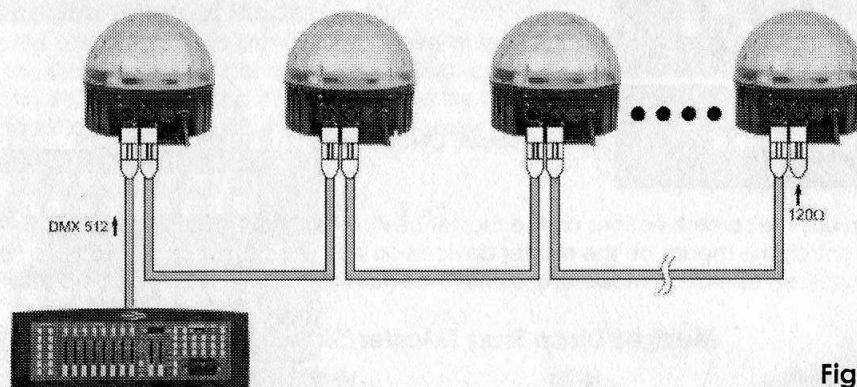

Fig. 4
4. Link the units as shown in (figure 4). Connect a DMX signal cable from the first unit's DMX "out" socket to the second unit's "in" socket. Repeat this process to link the second, third, and fourth units.